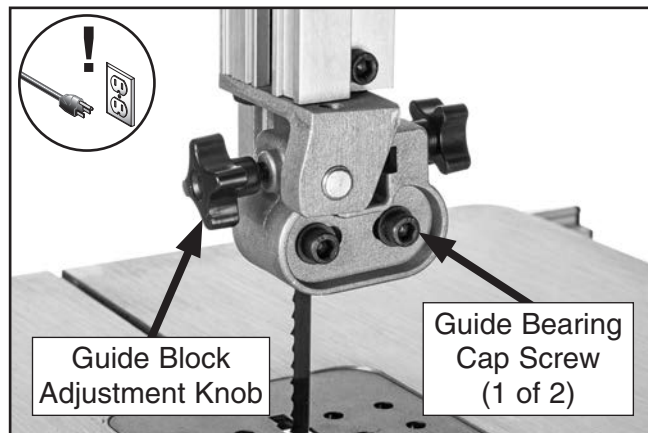
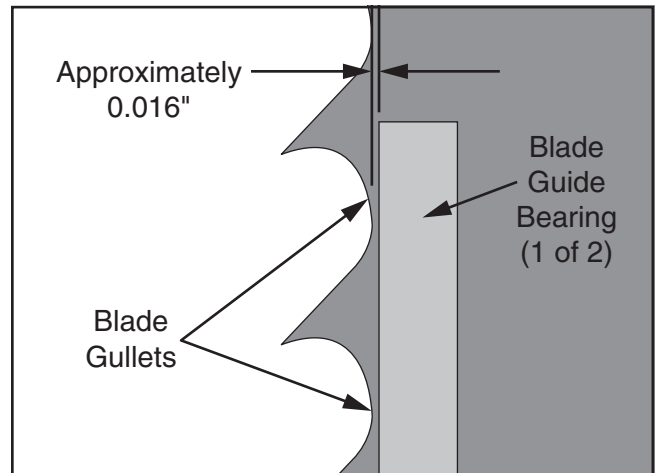
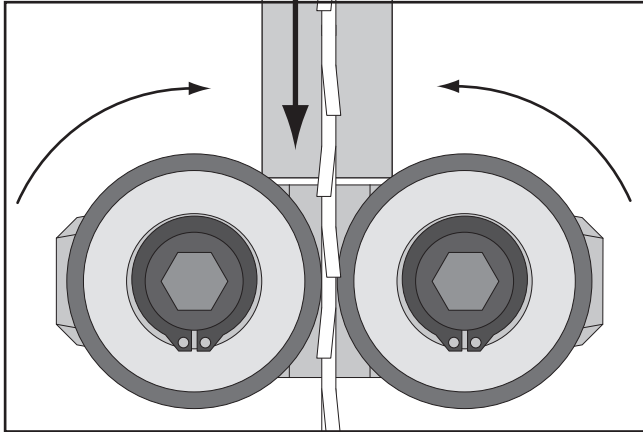
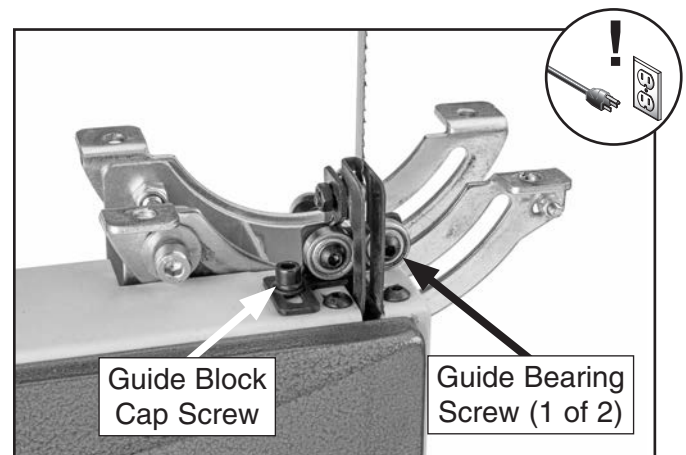

Figure 27. Upper guide bearing components.
Figure 28. Blade guide bearing positioned just behind blade gullets.
Figure 30. Blade guide bearings evenly and lightly touching the sides of the blade.
Figure 31. Lower blade guide components (table removed for clarity).
2. Loosen guide block adjustment knob shown in **Figure 27**, then laterally position guide bearings just behind blade gullets, as illustrated in **Figure 28**, then tighten knob to secure setting.
- Loosen both guide bearing cap screws (see **Figure 27** on **Page 25**), then position guide bearings so they evenly and lightly touch sides of blade (see illustration in **Figure 30**) without deflecting it one way or the other.
- Loosen guide block cap screw (see **Figure 31**), then laterally position guide bearings just behind blade gullets, as illustrated in **Figure 28** on **Page 25**, then tighten cap screw to secure setting.
- Loosen both guide bearing screws (see **Figure 31**), then position guide bearings so they evenly and lightly touch sides of blade (see illustration in **Figure 30**) without deflecting it one way or the other.